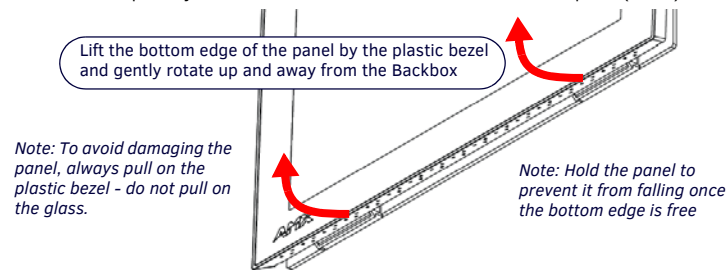

FIG. 8 MSD-701-L/BACKBOX ASSEMBLY (RELEASING THE BOTTOM EDGE OF THE PANEL)
- Grasp the bottom of the panel and pull gently outward until the side of the panel is free of the snap. Use your other hand to stabilize the front of the touch panel (FIG. 8):